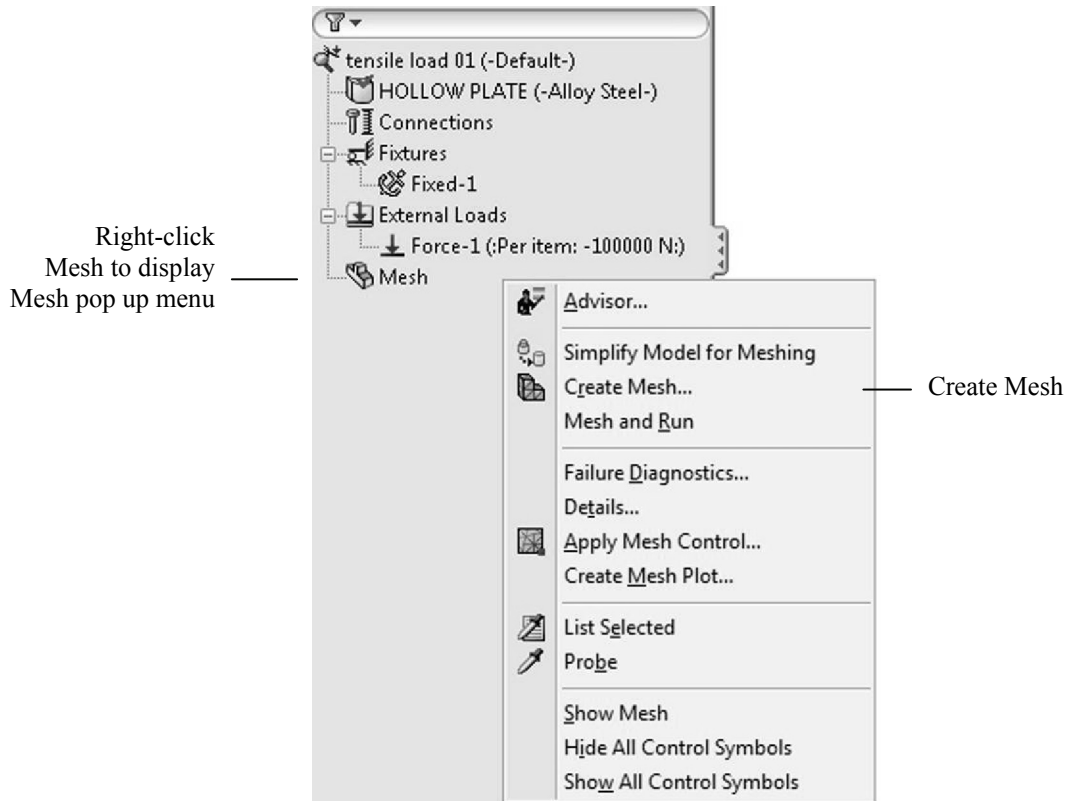

Figure 2-14: Mesh pop-up menu.
The difference between **Curvature based** mesh and **Standard** mesh will be explained in chapter 3. Now, right-click the *Mesh* folder to display the pop-up menu (Figure 2-14).
*You can control the mesh visibility by selecting **Hide Mesh** or **Show Mesh** from the pop-up menu shown in Figure 2-14.*
The information on the number of nodes and number of elements can be found in **Mesh Details** accessible from the menu in Figure 2-14. The mesh Details window is shown in Figure 2-31.